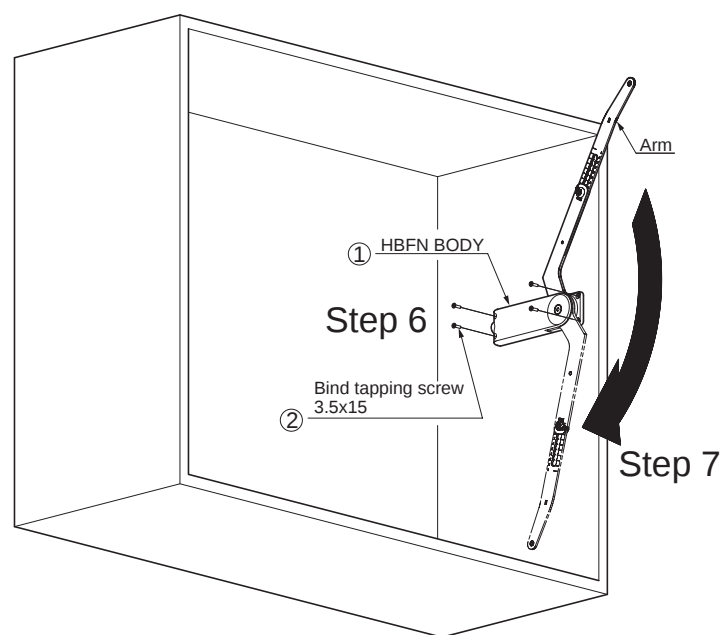

Fig. 7 Installation of side body
- Step 6. Set the unit body ① (or ②) with the arm length adjusted according to the door height into the specified position on the inside surface of the cabinet (as for the mounting dimensions refer to Fig. 3 & Table 2), and fix the unit body ① (or ②) with the attached bind tapping screws 3.5x15 ③. (Fig. 7)
- Step 7. Pull down the arm to the arrow direction completely. (Fig. 7)